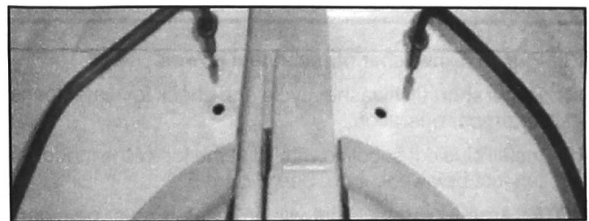

FIGURE 3
9. Stand dishwasher back up and pull heater element up through tub and discard. See *Figure 3*.